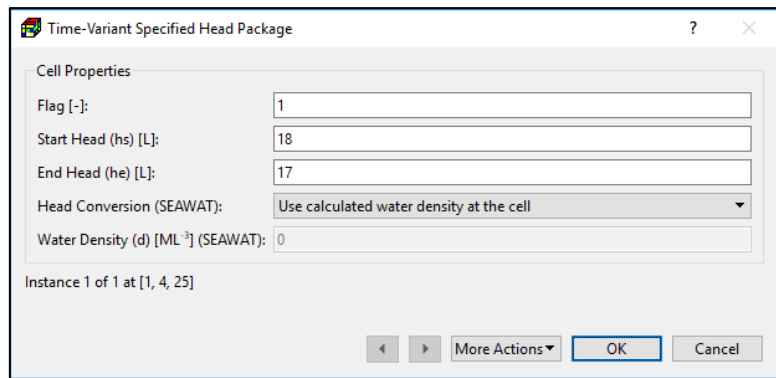

Figure 99. The Time-Variant Specified Head Package dialog box
1. **All input methods**⁵⁴: Figure 99 shows the dialog box for specifying cell, vertex, or polygon properties.